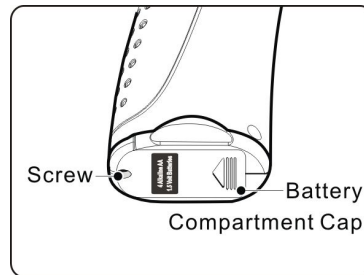

Fig. 4
- 1) Turn the handheld display unit upside down to expose the battery compartment cap and screw. (**Fig. 4**)